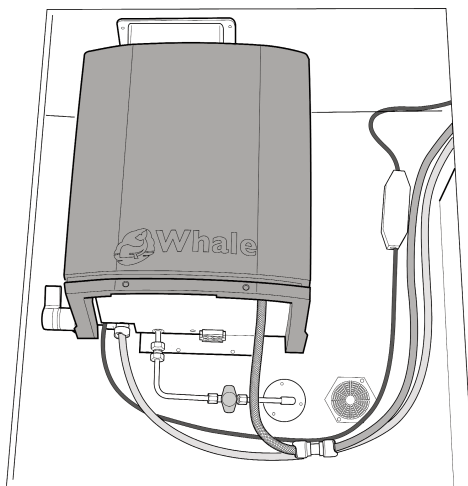

Fig. 26
Step 14 Completed installation (see Figs. 26 & 27)